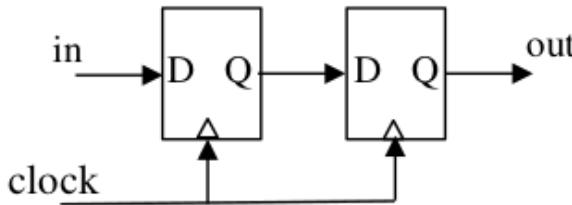

Fig. 5.6
6. Consider the sequential circuit shown in Fig. 5.6, where both flip-flops used are positive edge-triggered D flip-flops. The number of states in the state transition diagram of this circuit that have a transition back to the same state on some value of "in" is _____.